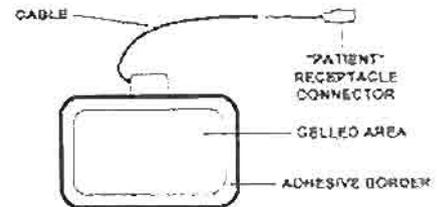

Figure 1-13. Disposable patient return electrode.
k. Disposable patient return electrode (fig 1-13). The disposable patient return electrode consists of a pad of conductive gel, an adhesive border, a two-conductor electrical cable, and the ES apparatus front panel "PATIENT" receptacle connector.